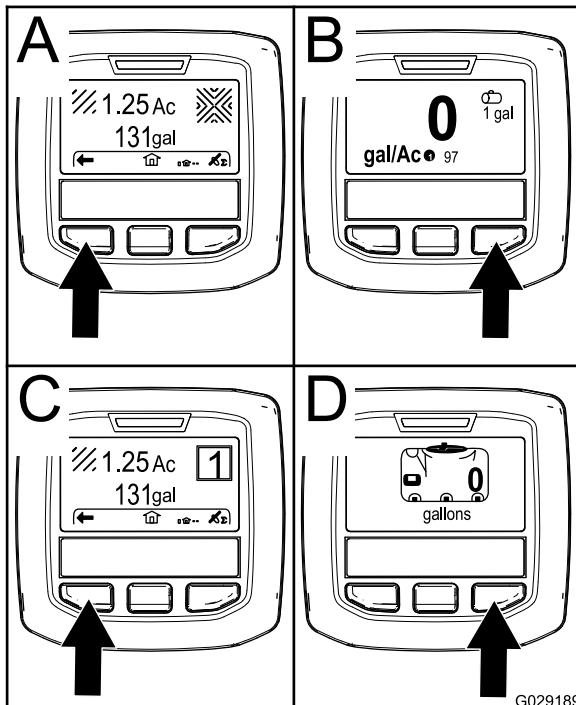

Figure 51
- Right selection button: **Total area sprayed** (A of Figure 51)
- Right selection button: **Application rate** (B of Figure 51)
- Left selection button: **Sub-area sprayed** (C of Figure 51)
- Left selection button: **Tank volume** (D of Figure 51)